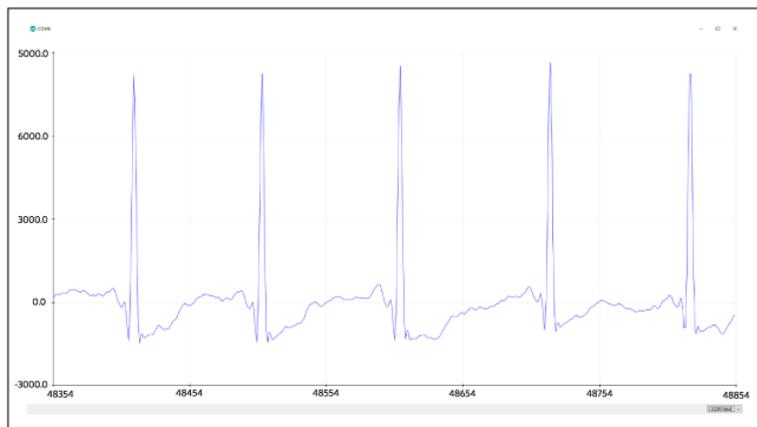

Figure 14. Example output from the MAX30003WING_Demo_QRS program.
- If using the MAX30003WING_Demo_QRS, the bipotential data begins plotting in the Arduino serial plotter, as shown in Figure 14.